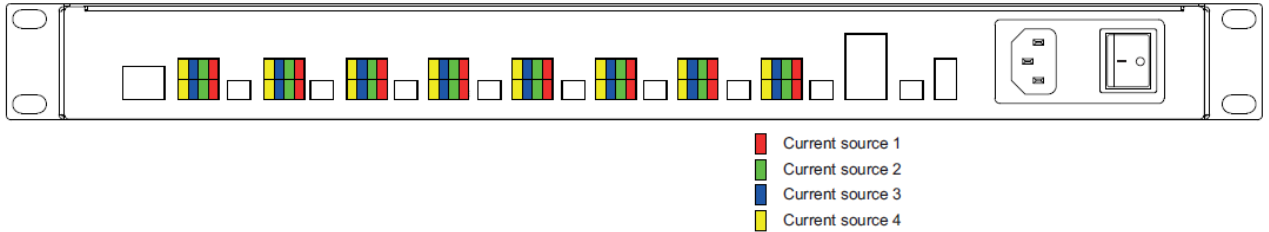

Figure 4.3 Current sources and corresponding LED outputs
2. In the first menu (CUR1), select the LED output current for the current source 1. Figure 4.3 shows which current sources the LED outputs are connected to. By pressing the plus or minus button you can go up or down in 50mA steps.
The LED group in pictures below refers to the Figure 4.3, which shows which current sources the LED outputs are connected to.